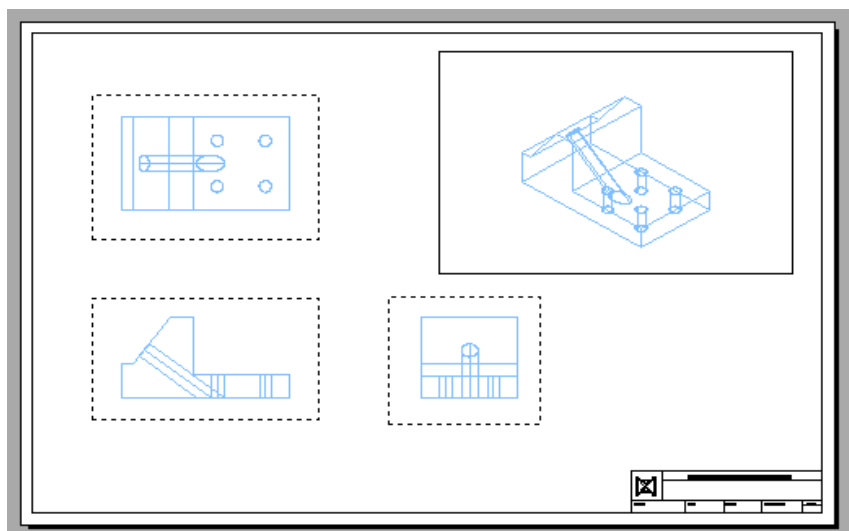

Figure Step 13A
Step 13 Enter the SOLDRAW command shown below to change the views to 2D. See Figure Step 13A and 13B.